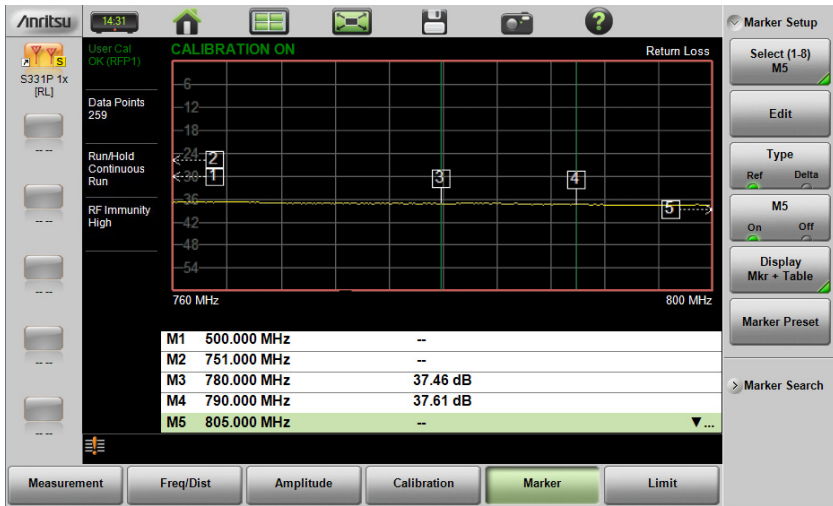

Figure 3-30. Markers 1, 2, and 5 are Out of Range
- If the frequency (F1 or F2) or distance (D1 and D2) parameters are moved inside a current marker location, the out-of-range (---> or <----) indicator is displayed and marker values in the table are blanked (--). See Figure 3-30 for an example of markers outside the current span.